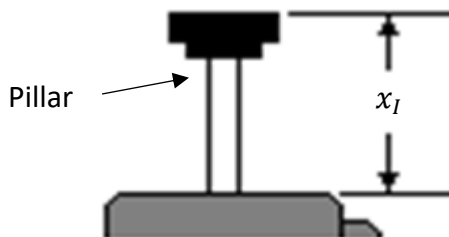

Figure 5 – Compression of Pillar
- C) After making sure that the spring is *not* compressed, measure the uncompressed length of the pillar x_I . See Figure 5. Place this value in the table.